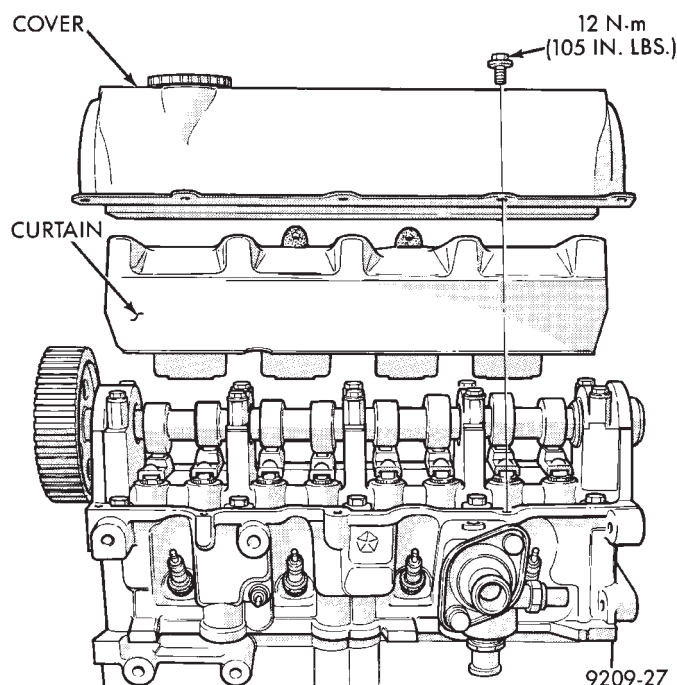

Fig. 2 Cylinder Head Cover and Curtain
- (1) Remove the cylinder head cover bolts (Fig. 2).
- (2) Remove cylinder head cover and curtain from cylinder head. Do not misplace the rubber bumpers on curtain.